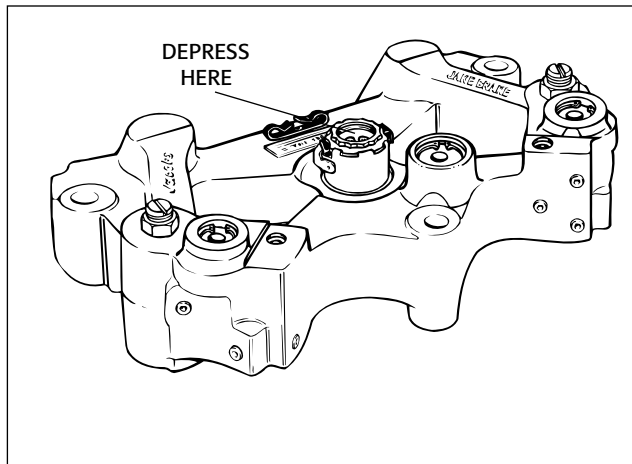

FIG. 18
2. Depress and release the engine brake solenoid disc several times to allow the housing to be filled with oil (see Fig. 18).